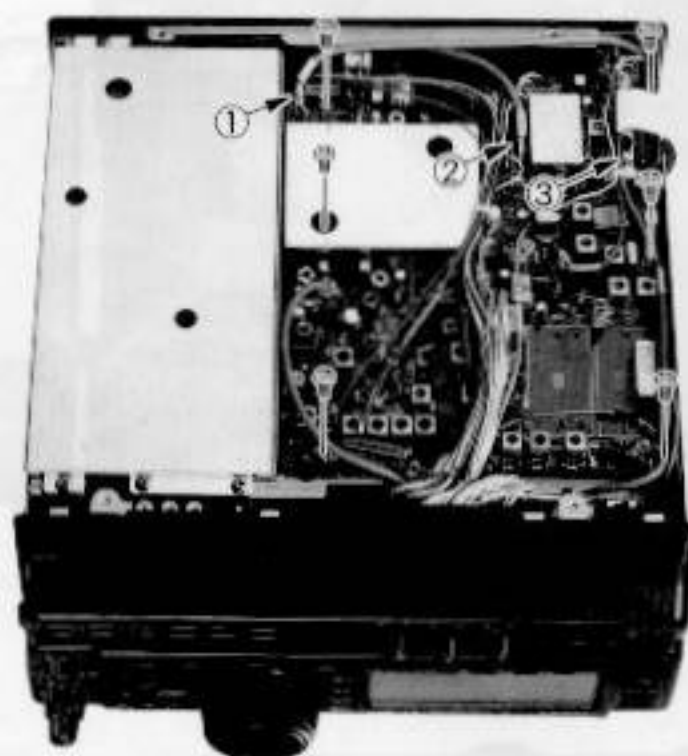

Figure 2: RF Unit Location
- ☐ Disconnect the light-blue-banded coaxial cable from J2026 near the rear of the exposed RF Unit (① in Figure 2). If you are not installing any crystal filters, skip the next three steps.
- ☐ If installing crystal filters you will need to access the solder side of the RF Unit. Unplug the yellow-banded coaxial cable from J2024 near the rear corner of the RF Unit (② in Figure 2).
- ☐ Using a small sharp tool, gently pry up on either side of J2011, the white plastic ribbon cable socket near the rear left corner of the RF Unit (③ in Figure 2), about 2 mm ($\frac{1}{8}$ inch), until the ribbon cable can be removed (see Figure 3).
- ☐ Remove the six screws indicated in Figure 2 (one is inside the large shield housing, accessible through the hole near the corner).
- ☐ Replace the six screws removed from the RF Unit (Fig. 2), and replace the coaxial cables (① and ② in Fig. 2): the yellow-banded cable goes in J2024, and the light-blue-banded cable goes in J2026.